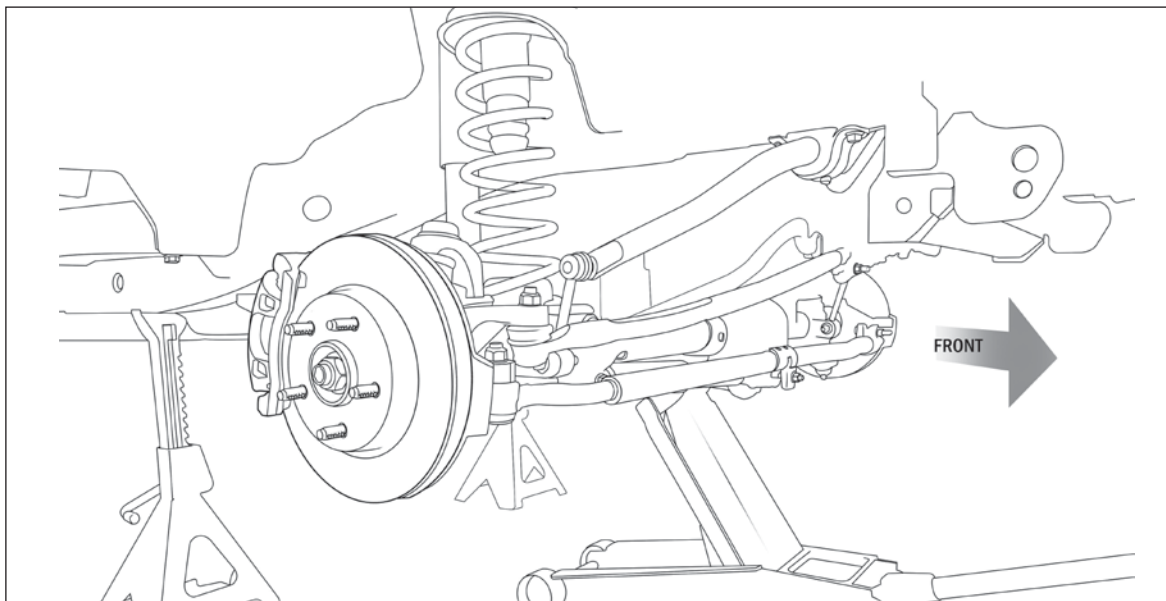

Figure 9
1. Raise Jeep and support the frame using jack stands or a hoist, such that the front axle can be lowered enough to remove the springs. Support the axle by placing floor jack under the center of the axle. Remove the wheels (fig. 9).